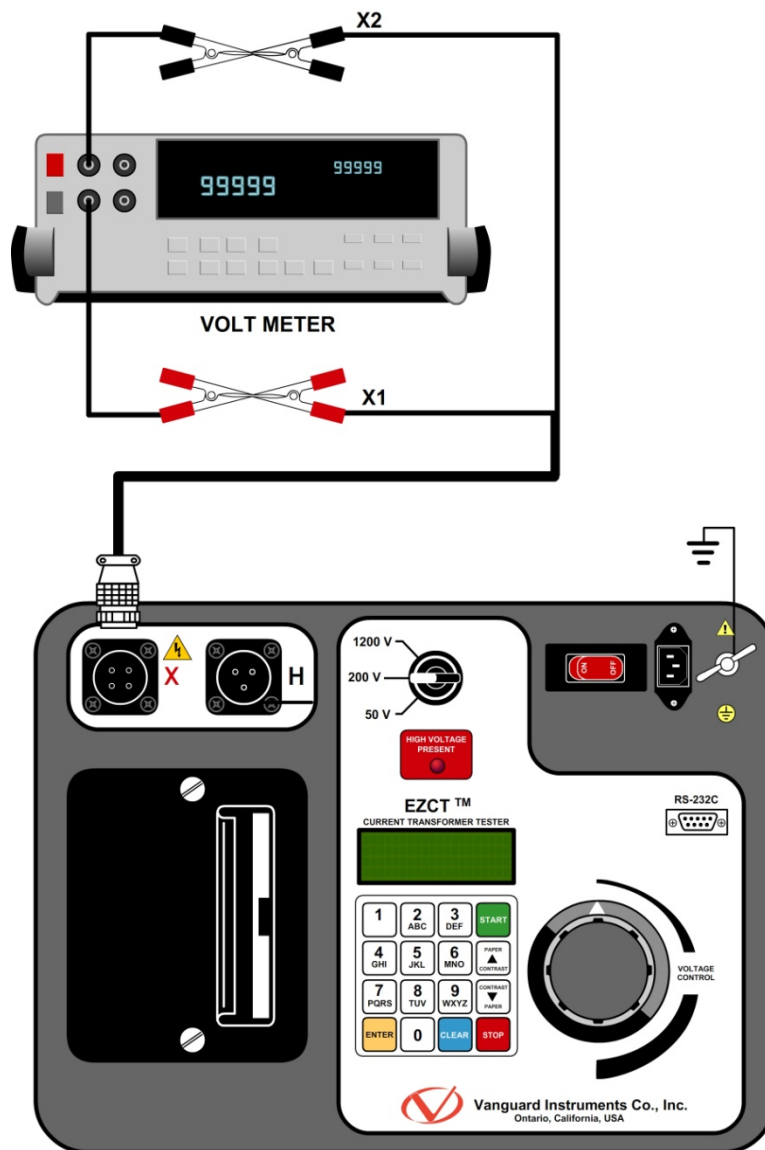

Figure 15. EZCT V_x Verification Test Connections
- Connect the X cables to an RMS volt meter as shown in Figure 15.